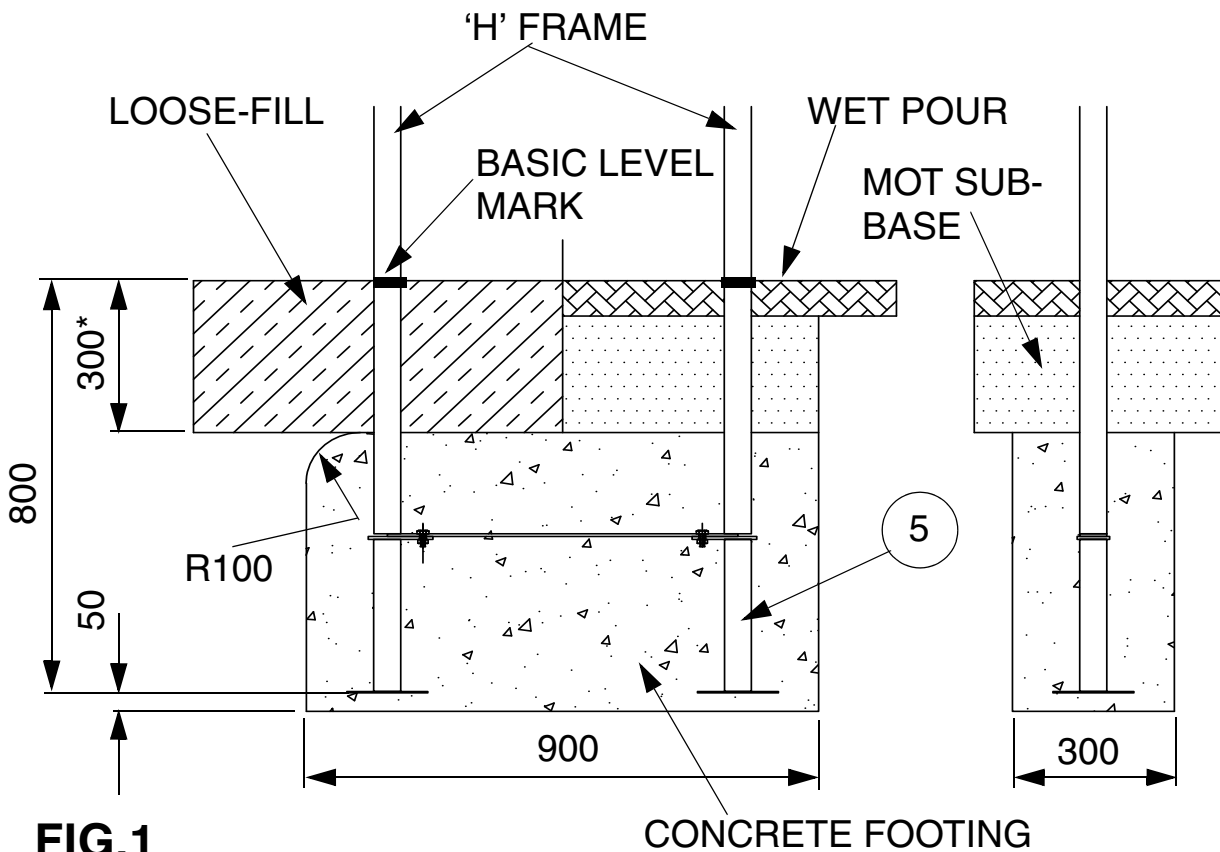

FIG.1
- i) The posts are placed into the ground excavations, and are chocked to the correct height (FIG.1 & 2).